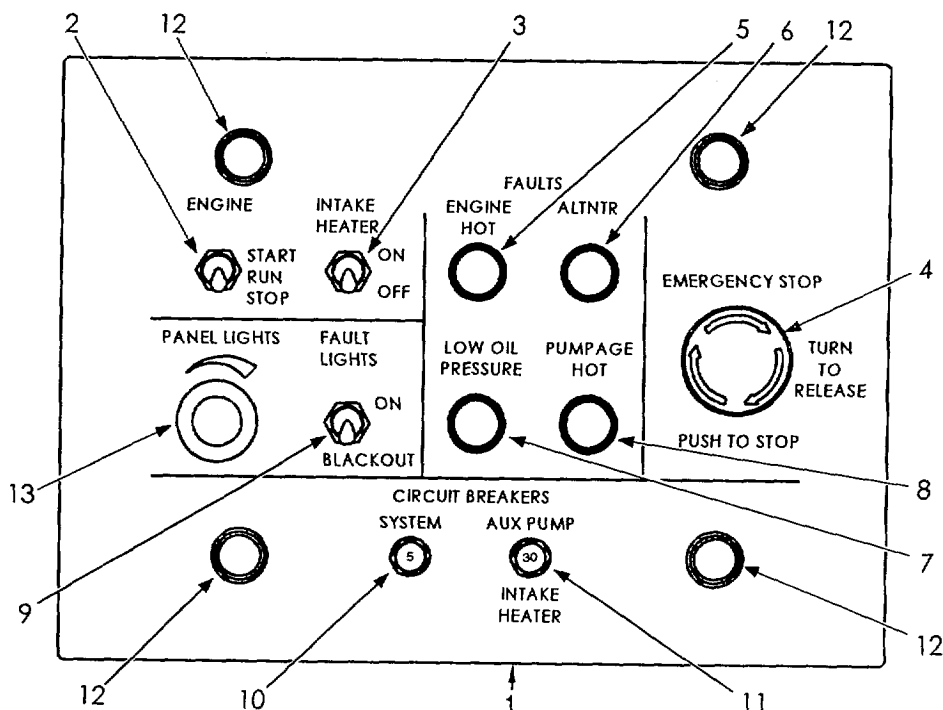

Figure 1-7. Control Panel
1.11.3 System Electrical. (Refer to figure 1-7.)